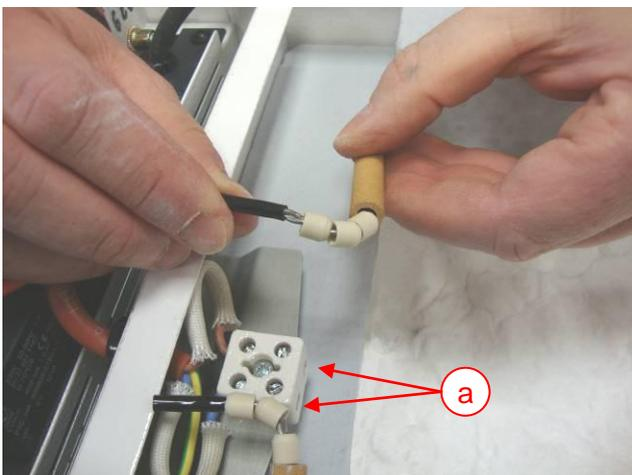

Fig. 45 – Clamp
- Remove the black fixation sleeves from the heating wires. Don't touch the wires!. Connect the wires to the contact clamp (Fig. 45 a) and tighten the clamp carefully.